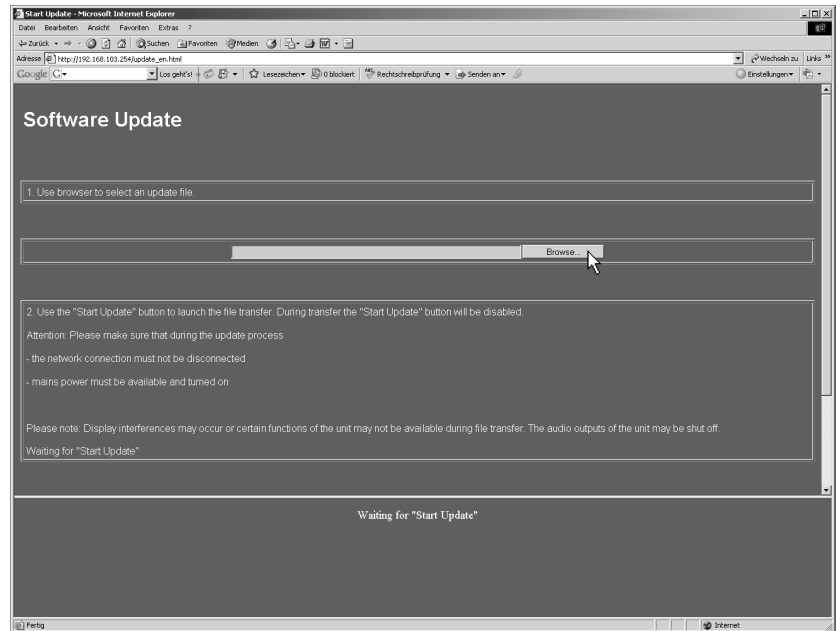

Fig. 8-3: Display of the Software Update menu page (Browse ...)
3. Select **Browse ...** (see Fig. 8-3).
13. Use the displayed dialog (see Fig. 8-3) to select (Browse ...) the **fourth** of the four update files.